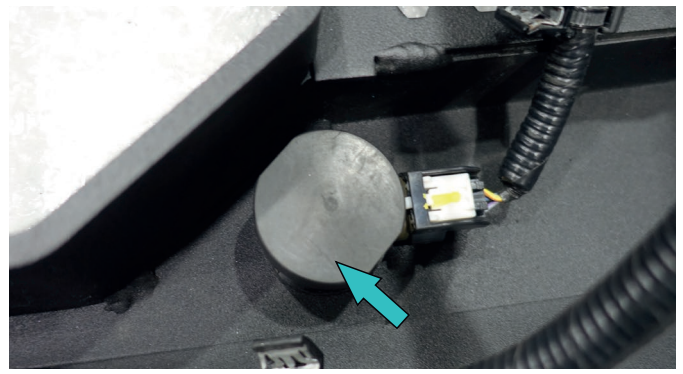

Fig.51
48. Fix the parking sensors using the parking sensor cap (item V2) (fig.51).